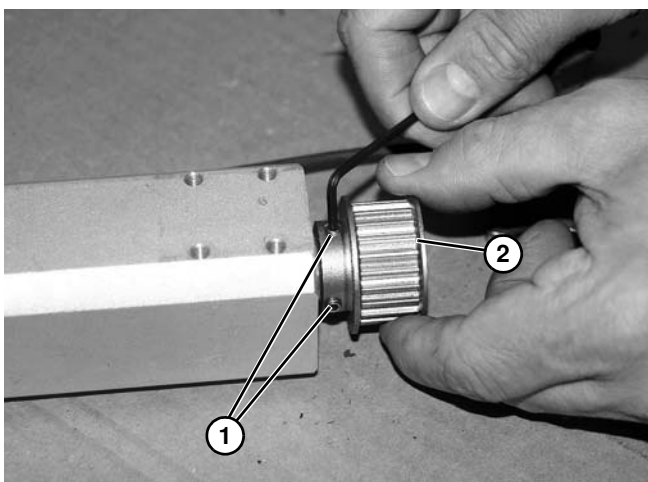

Figure 105
11. Loosen two set screws (**Figure 105, item 1**) securing drive pulley (**Figure 105, item 2**). Slide drive pulley off of motor shaft.